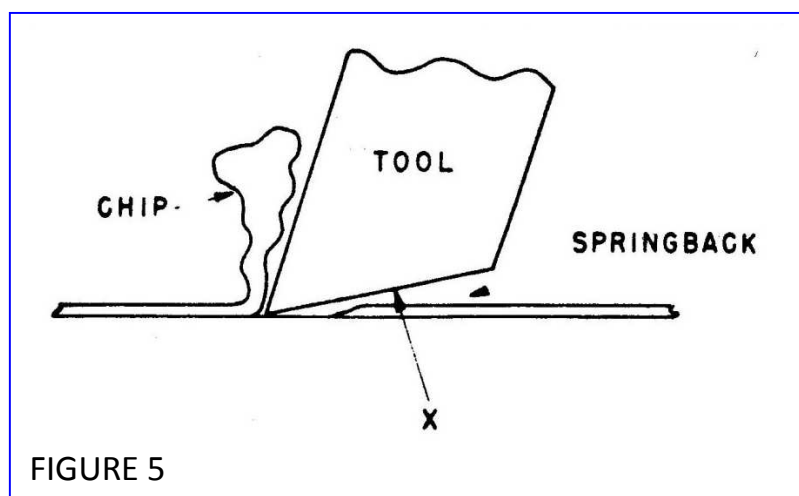

FIGURE 5
The formula is based on the fact that a certain amount of springback exists in all materials. When a tool cuts along a work-piece, it produces compressive forces at the point of contact of work and tool. As the tool passes any given point, compression is relieved. The work "grows" slightly directly behind the tool. This is why all cutting edges require front clearance, or relief, as shown by the (X) on the accompanying sketch (Figure 5).
Referring to the "springback" sketch in Figure 5, clearance should be reduced a bit at a time until a shiny spot appears at the point "X" on the relieved area of the tool. This is evidence the clearance is so low that the metal is coming up to meet it as it springs back when tool compression is relieved.